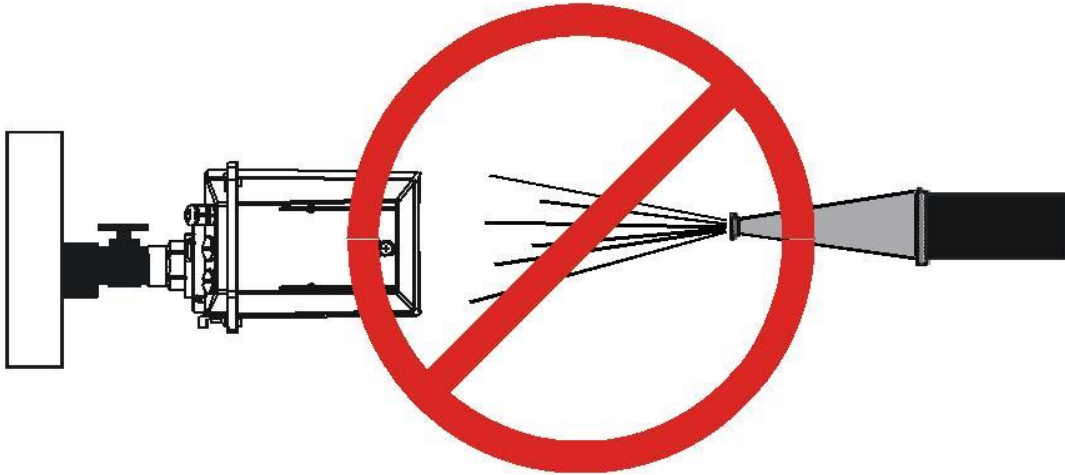

Figure 2-7: Do Not Subject the Hydran M2-X or Its Sensor to High-Pressure Water Streams
7. Do not subject the Hydran M2-X or its sensor to high-pressure water streams (see Figure 2-7). High-pressure streams used to clean transformers may cause serious damage.